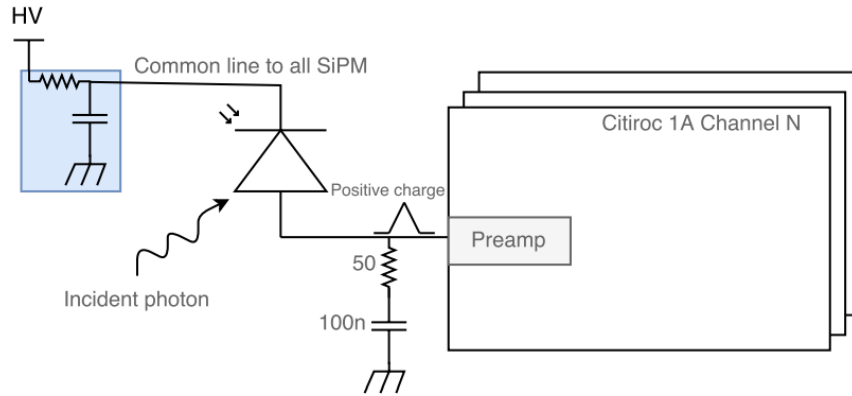

Figure 23 – SiPM charge transfer scheme - Fast signal
**Ramp-up of high voltage SiPM power should be no faster than 10V/ms to avoid excessive discharge at the input of the Citiroc 1A.** Once correctly biased, the SiPM will provide a positive charge upon incident photon. The input DAC is high impedance on fast signal and the fast charge generated by the SiPM will be injected in the Citiroc 1A preamplifier as shown on Figure 23.